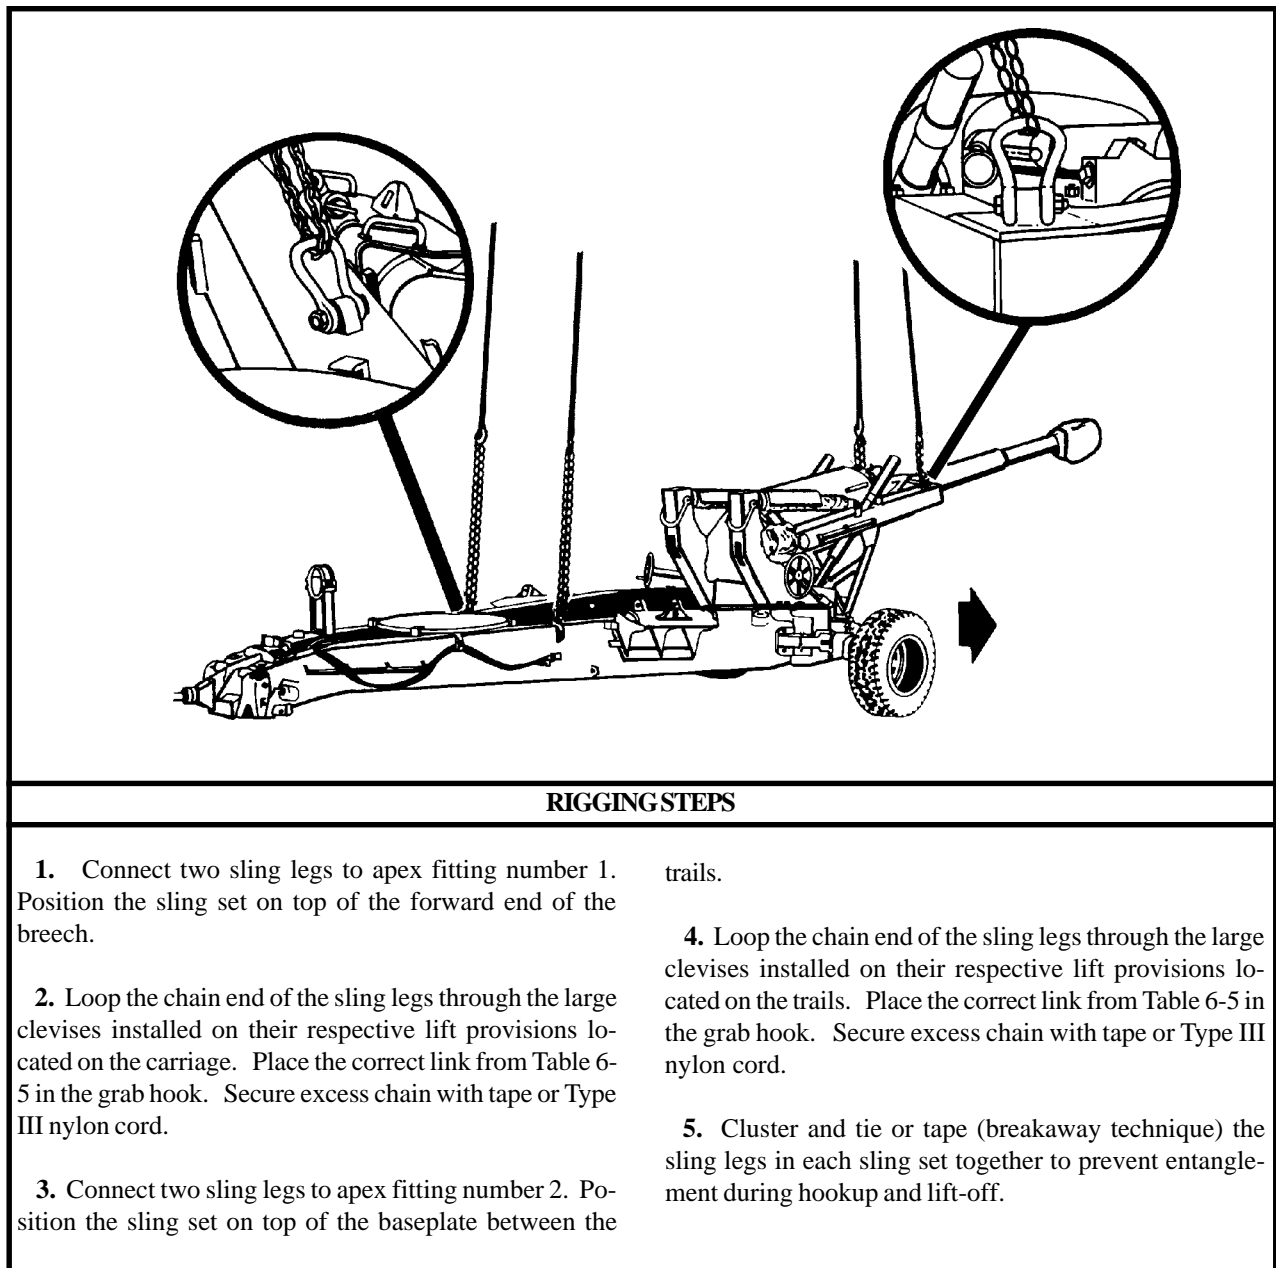

Figure 6-5. M198 Howitzer
(2) **Rigging.** Rig the load according to the steps in Figure 6-5.